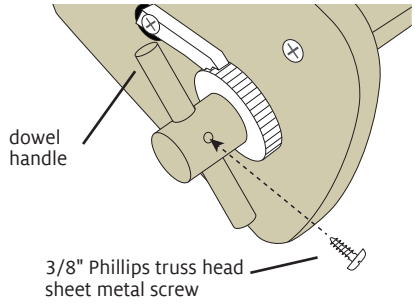

FIGURE 5: ATTACH THE DOWEL HANDLES
5. Insert and center the dowel handles into the large holes in the ends of the warp and cloth beams, as shown in Figure 5. If handles fit tightly, use a hammer to gently tap them into place. Secure each handle by inserting a 3/8" Phillips truss head sheet metal screw into the small hole of the beam (Figure 5). Use an electric screwdriver if you have one, or rub some bar soap or paste wax on the screw threads.